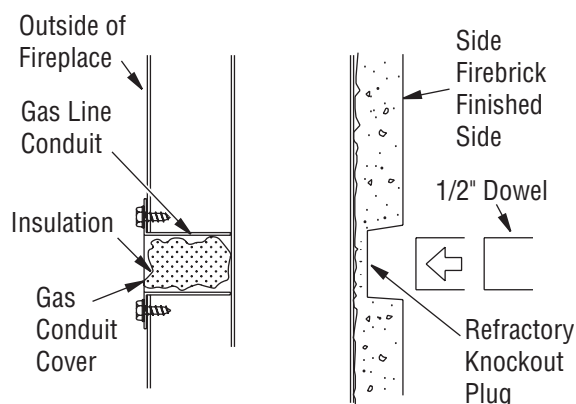

Figure 21 - Gas Line Knockout
1. Remove knockout indentation on refractory or firebrick wall located above refractory hearth floor. Knockout indentation must be firmly tapped with any solid object, such as a 1/2" dowel, until it is released. Remove fragmented portions of refractory (see Figure 21).